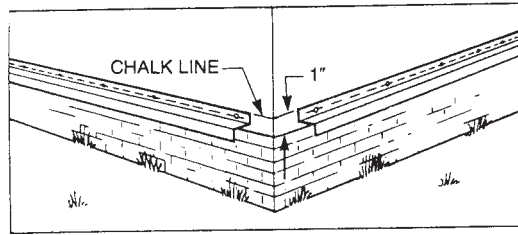

FIG. 23 Installation of Head Flashing
10.2 *Head Flashing*—Determine the lowest point along the area to receive siding and install J-channels or head flashing located so that the lower edge of the nailing flange will be on a level line with that point all along the area to receive siding. Leave $\frac{1}{4}$ in. (6.4 mm) gap at all corner posts and J-channels. To lap two pieces cut away 1 in. (25.4 mm) of the nailing flange of the overlapping piece and lap $\frac{1}{2}$ in. (12.7 mm). (See Fig. 23.)